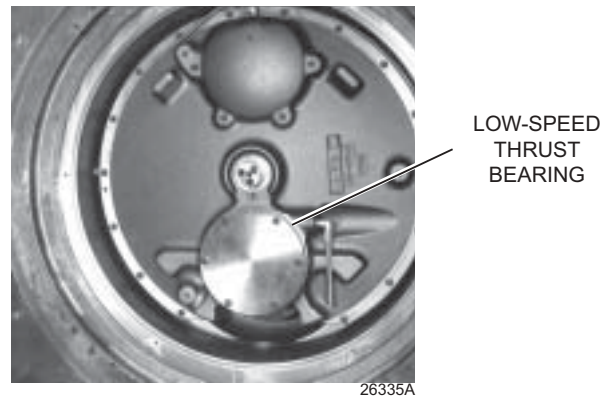

FIG. 29 – LOW-SPEED THRUST BEARING
1. Remove the (6) hex head cap screws that hold the low-speed thrust bearing to the bearing housing, and using (2) guide pins, remove the thrust bearing. Be sure not to damage the bearing pads (see FIG. 29 & 30).